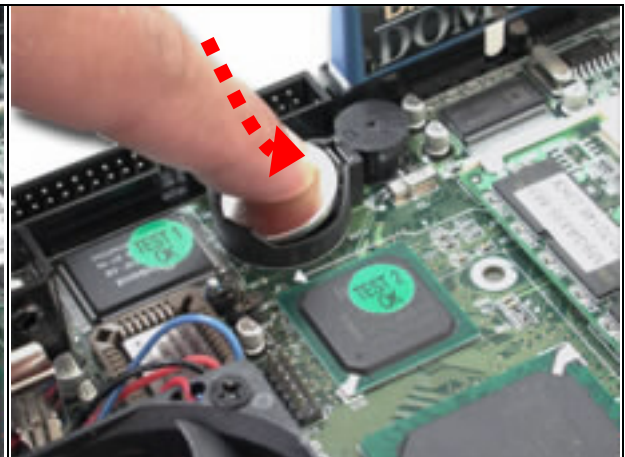

Fig. 2-21 Restore the battery
2. Replace it with a new one by pressing the battery with fingertip to restore the battery (*Fig. 2-21*).